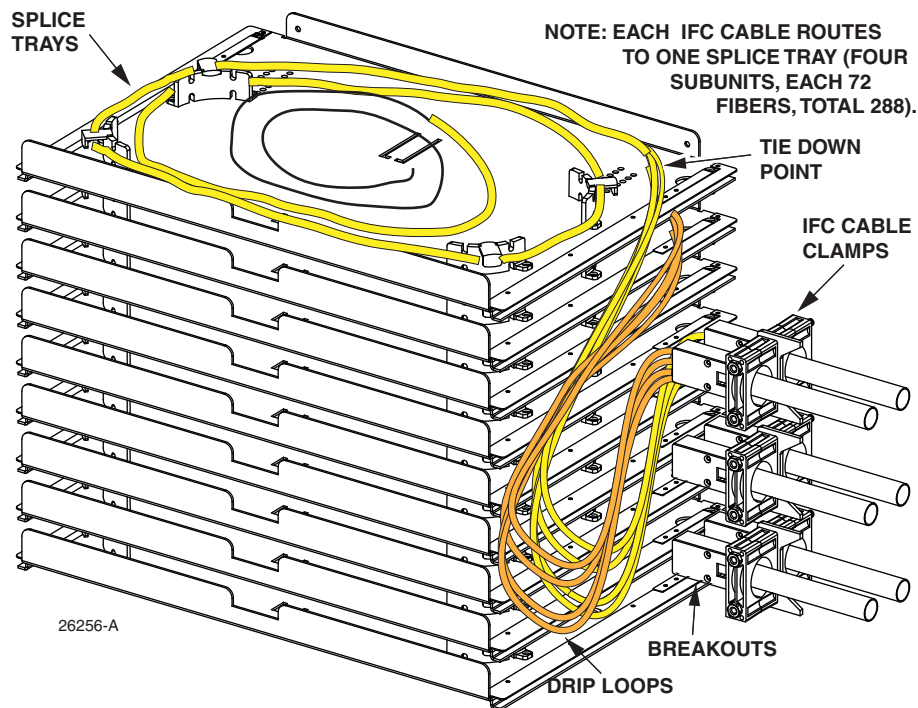

Figure 19. IFC Cable Routing
5. After the four protective tubes are loaded with ribbons and installed within the breakout per ADCP-93-305 pull the cable back so is positioned at cable entry location (Figure 19).
7. When routing the tubes into the splice tray, allow a drip loop to form as shown in Figure 19.